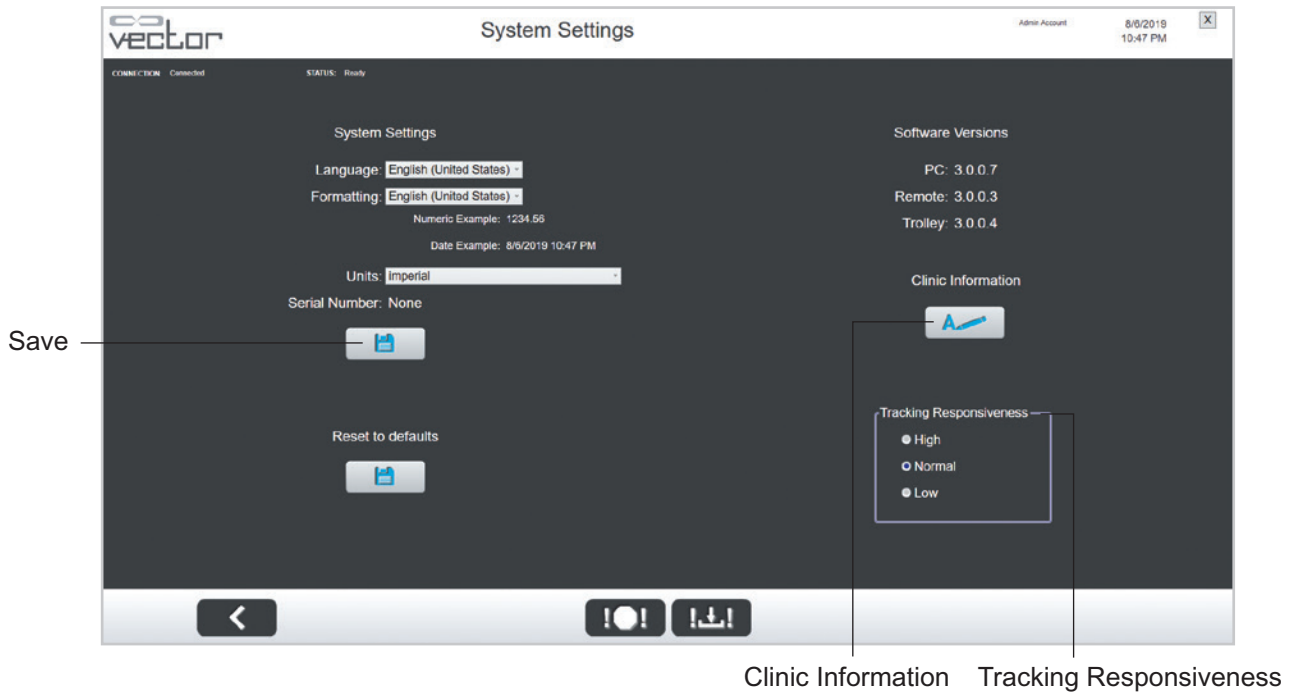

Figure 11-9: System Settings Menu
The System Settings menu is used by the administrator to change the language settings, formatting, measurement units, enter clinic information, and activate software modules. The System Settings menu also lists the version of Vector Elite software that is installed. See Figure 11-9.
- To change the Tracking Responsiveness, select Low, Normal, or High. See Figure 11-9.
2. The System Settings Menu will open. See Figure 11-9.
1. Press the Clinic Information button. See Figure 11-9.